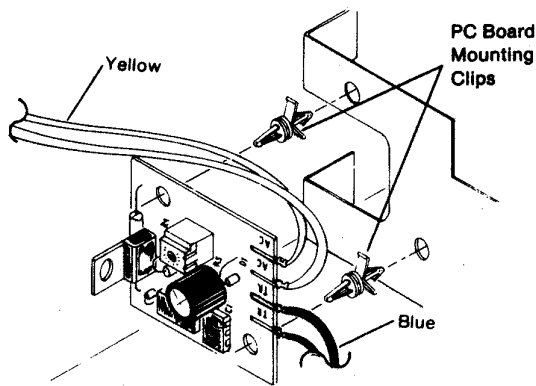
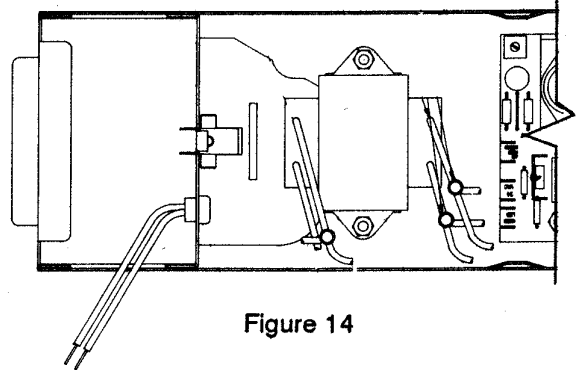

Figure 13
Figure 14
This electronic air cleaner has a **BUILT-IN AUTOMATIC AIR FLOW SENSOR**. The location of the air flow sensor is shown in Fig.13.
2. Wire unit to 120 volt, 60 Hertz, 1phase (or 240 volt, 50/60 Hertz, 1phase) supply. A field wiring compartment (with knock out holes) is located at the rear of the power pack assembly (Fig. 14). The electronic air flow sensor will automatically cycle your Electronic Air Cleaner with the blower system. The sensor is activated when the fan is on and air flow is present in the duct. It is pre-set at the factory and needs no adjustment (Fig. 13). Adjustment of the air flow sensor voids the warranty.
6. Remove the two (2) blue wires from the air flow sensor by carefully sliding the connectors from the board (See Figure 13).
9. Using a wire nut or pigtail connector suitable for connecting two (2) each 18 gauge wires, connect the ends of the wires together.
11. Remove the two (2) yellow wires from the air flow sensor (See Fig. 13).
13. Double back the end of one (1) wire onto itself approximately 2" and tape with electrical tape.
3. Remove the two (2) blue leads from the air flow sensor. Refer to Figure 13. Connect the ends of the wires together to bypass the air flow sensor during the next service check.